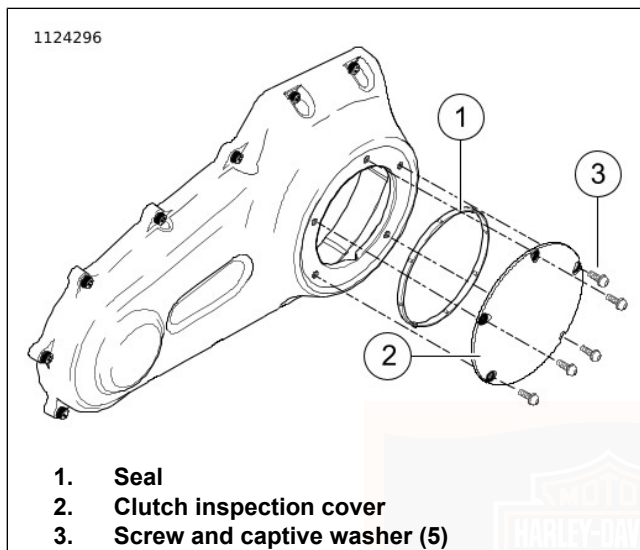
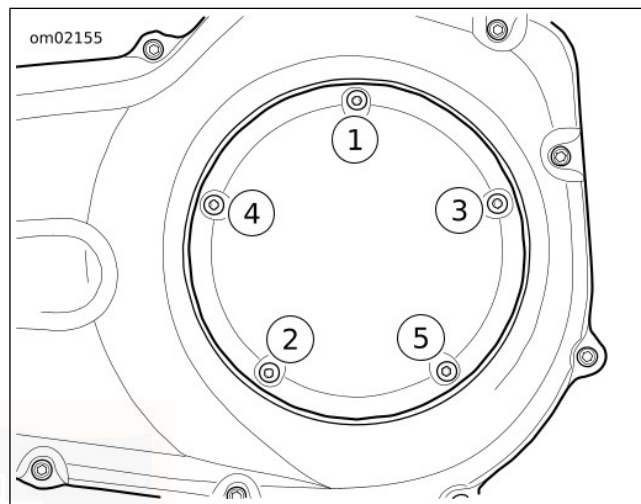

Figure 63. Clutch Cover (Typical)
Figure 64. Clutch Cover Tightening Sequence
6. See Figure 63. Remove screws (3) and clutch inspection cover (2).
7. Remove seal (1). Wipe oil from groove in chaincase cover and mounting surface.
- b. See Figure 63. Position **new** seal (1) in groove in clutch inspection cover (2). Press each of the nubs on seal into the groove.
- c. Secure clutch inspection cover (2) with screws with captive washers (3).
- d. See Figure 64. Tighten in sequence shown to 9.5–12.2 N·m (84–108 **in-lbs**).